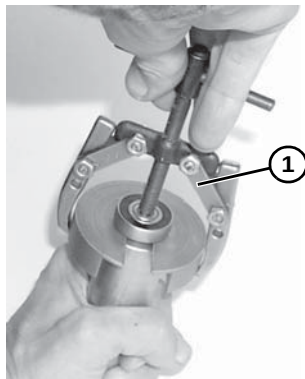

Figure 52
2. Using a puller part #807-1716 (**Figure 52, item 1**), remove and discard bearing.